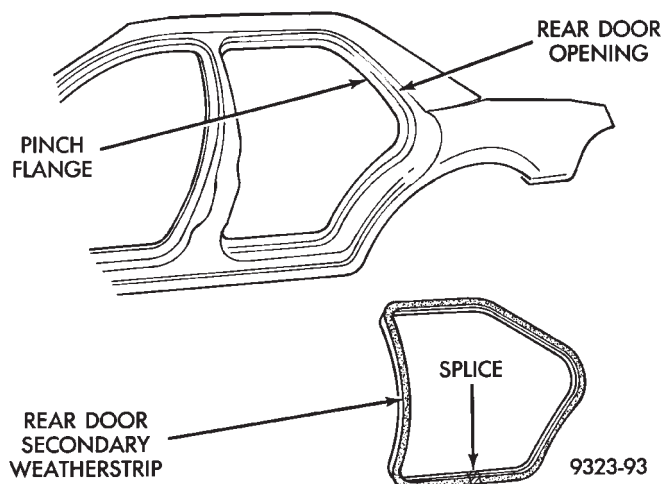

Fig. 51 Rear Door Secondary Weatherstrip
- (1) Open rear door.
- (2) Loosen door opening sill plate.
- (3) Pull secondary weatherstrip from fence around door opening (Fig. 51).